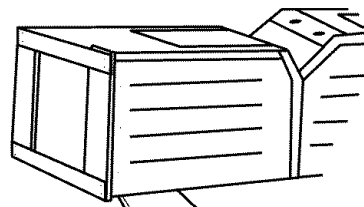

Figure 3
2. Lay two corner posts behind the appliance and gently tip the appliance over on to its back. (See figure 3.)